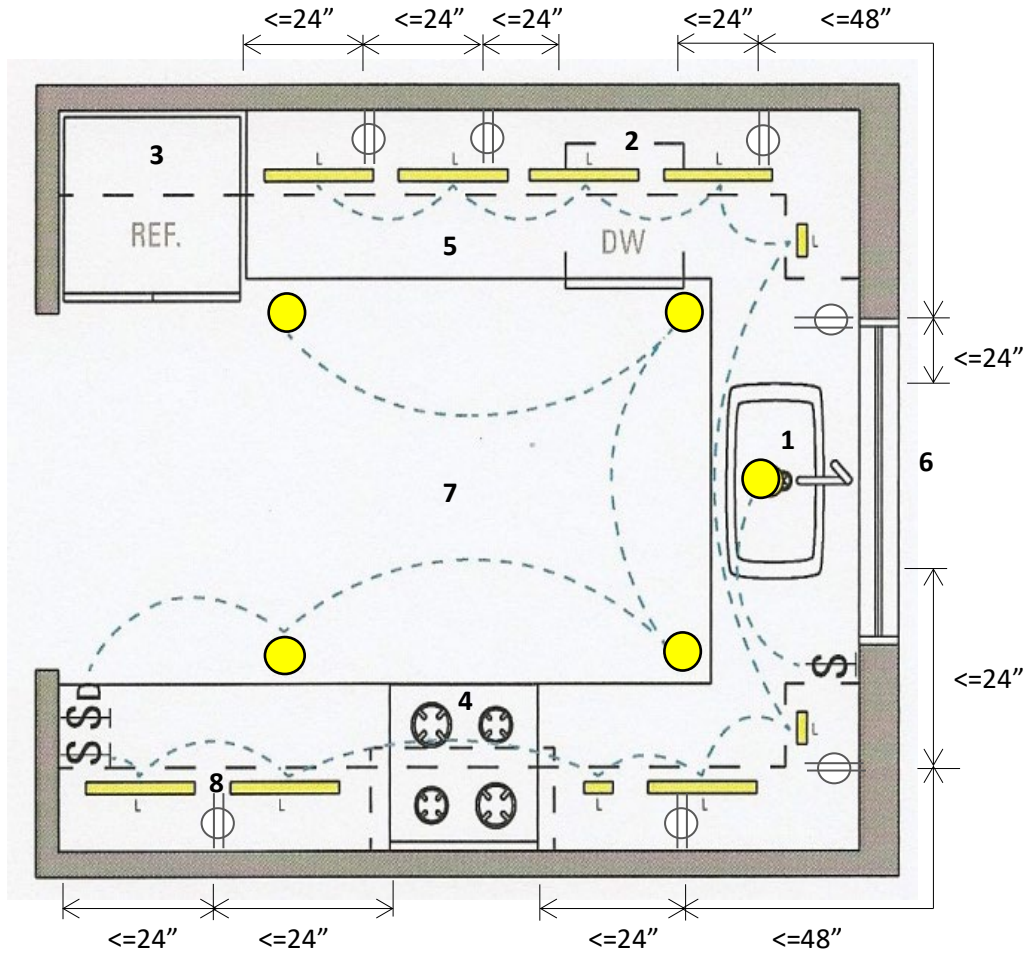

Figure 1
If the scope of work includes the reconfiguration of the kitchen layout, please bring **three (3)** sets of plans (minimum 11-in x 17-in drawings) or one digital copy depicting the existing and proposed kitchen floor plan and a written detailed description of the scope of work. It is important the plans clearly show all work proposed to avoid delays in permit issuance. Once a permit is issued, the scope of work is limited as defined and illustrated in the documents filed and the items to be replaced in the checklist below. See sample (figure 1) on next page. The applicant is responsible for compliance with all code regulations. If the scope of work is altered after permit issuance, the applicant shall request the permit to be updated.